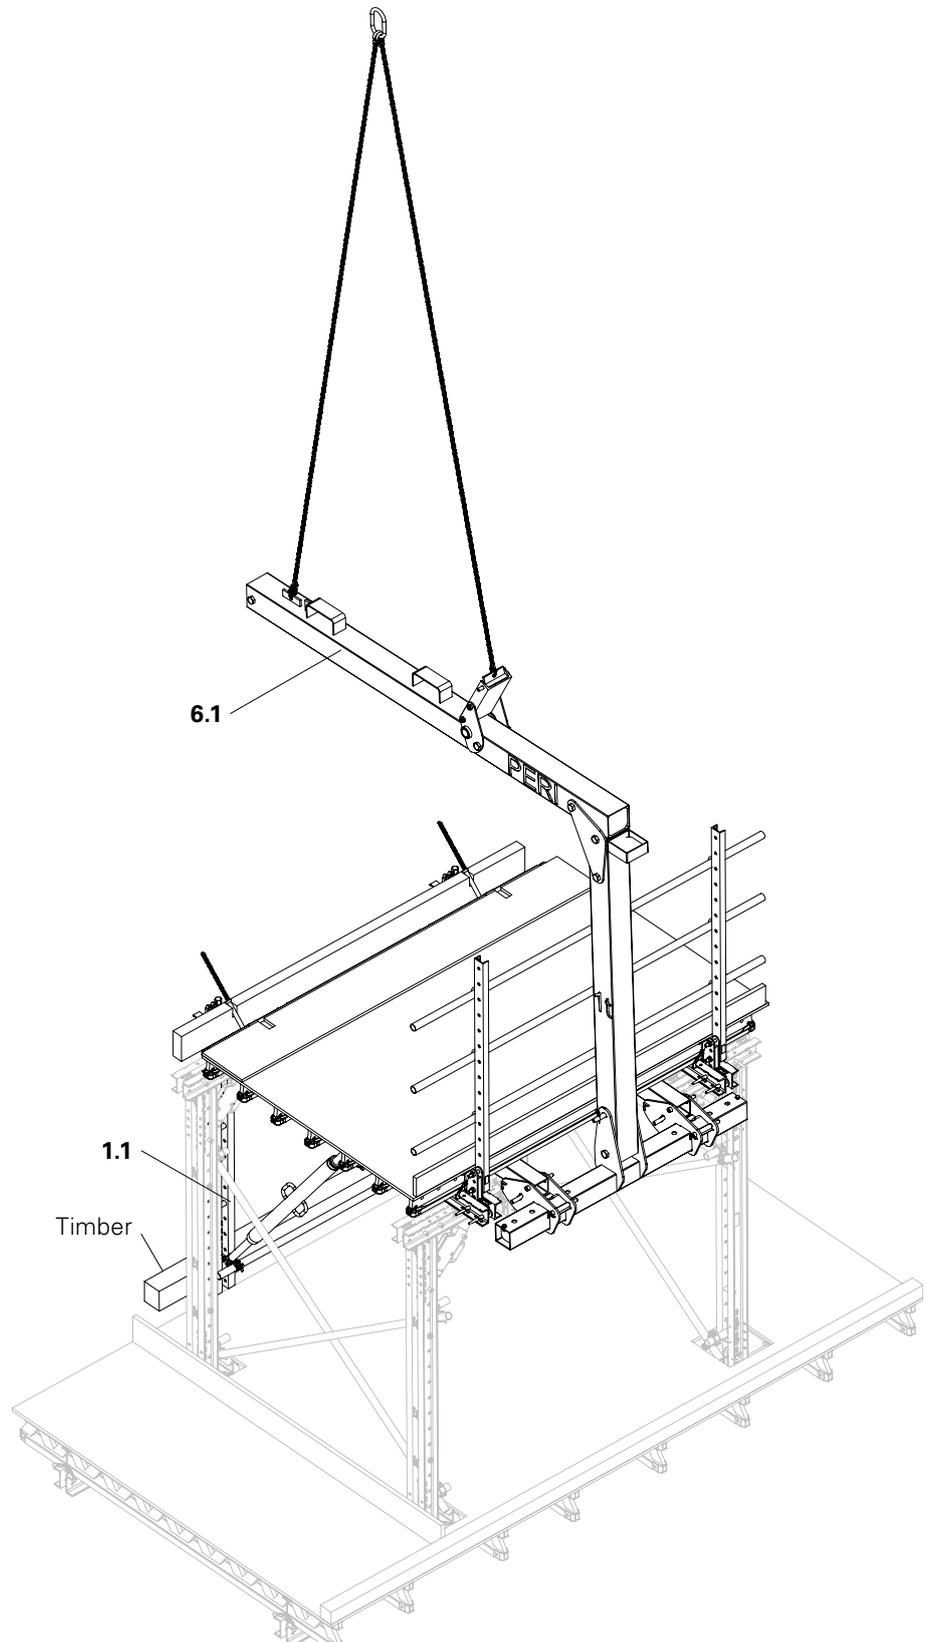

Fig. A7.01
1. Lift pre-assembled cantilever bracket from the assembly trestle using the Table Lifting Fork 1 t / 5.0 m (6.1). (Fig. A7.01)